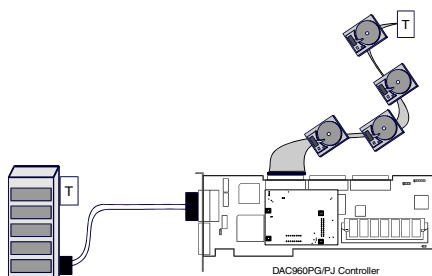

Figure 3. Connecting Internal and External Drives
- Connect a wide, high-density, 68-pin SCSI ribbon cable to the internal SCSI connectors on the DAC960PG or DAC960PJ controller, and connect the other cable connectors to any internal SCSI drives as required (see Figure 3).
- Connect an active terminator to the end of the SCSI ribbon cable at the end farthest from the controller (see Figure 3).
- Connect a wide, round, 68-pin Very High Density Connector Interface (VHDCI) cable to the external SCSI connector on the DAC960PG or DAC960PJ controller, and connect the other end of the cable to an external drive cabinet as required (see Figure 3). External drive cabinets usually have termination built into the end of the SCSI bus. Check the documentation that comes with your drive cabinet to be sure this is the case. If not, use an active terminator at the end of the bus.